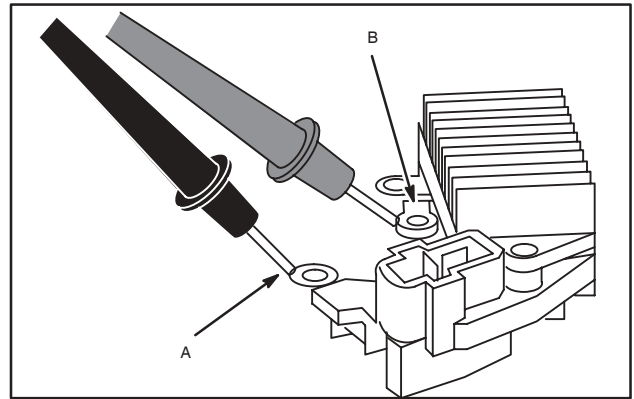

Fig. 34 – Check Regulator
1. Attach BLACK meter test lead to terminal “A” as shown, Fig. 34.
2. Contact terminal “B” with RED meter test lead, Fig. 34.